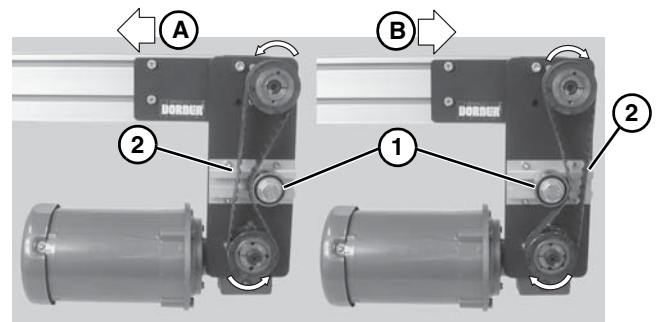

Figure 21
5. Depending on conveyor belt travel (direction A or B), locate timing belt tensioner (**Figure 21, item 1**) as shown. Tension timing belt to obtain 1/8" (3 mm) deflection for 6 lb (3 Kg) of force at timing belt midpoint (**Figure 21, item 2**). Tighten tensioner screw to 110 in-lb (12 Nm).